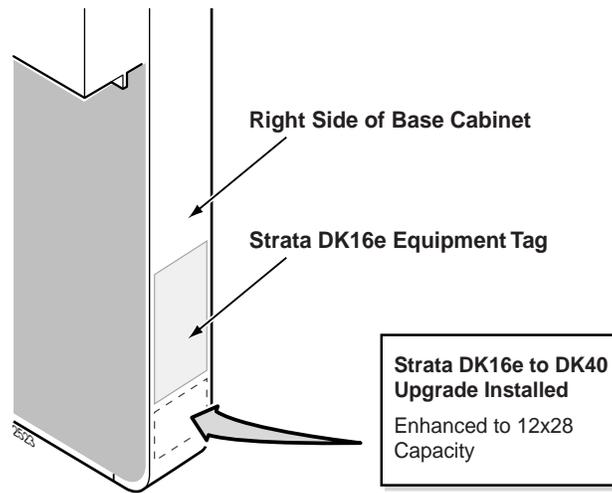

Figure 3 Upgrade Sticker Location
- Apply the supplied cabinet identification sticker below the DK16e equipment label on the right side of the base cabinet cover (see Figure 3).